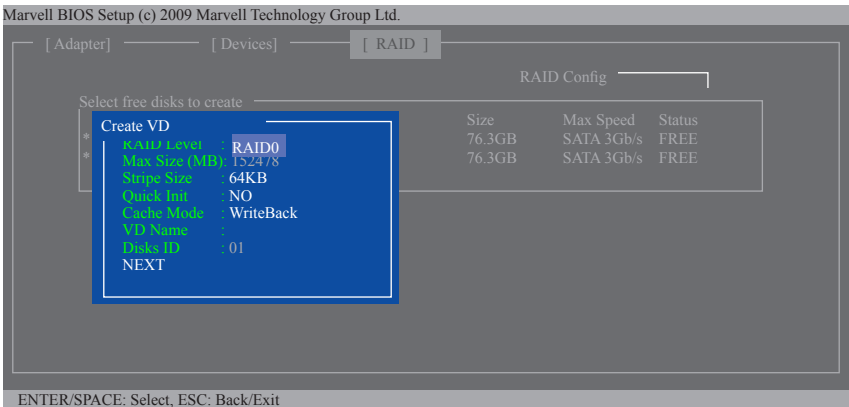

Figure 7
Step 3: On the **Create VD** menu (Figure 7), use the up or down arrow key to move the selection bar to select an item and press <Enter> to display options. Set the required items in sequence and press the down arrow key to proceed to the next item.